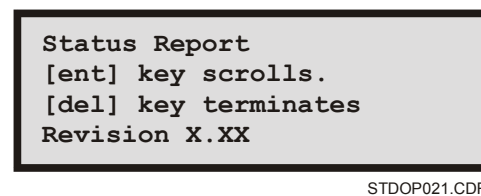

Figure 2-4: System status menu
3. Make the appropriate selection based on the screen in Figure 2-4.